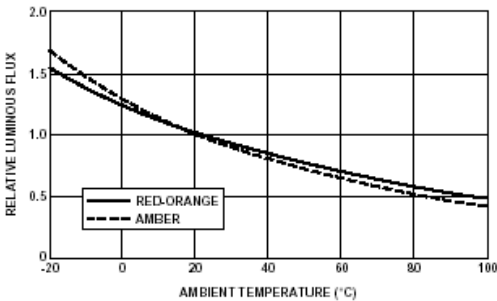

Figure 4.1 Luminous flux versus ambient temperature for a typical red-orange AS/TS AlInGaP LED when operated at a constant current.
The degradation of flux as a function of increasing temperature for a typical red-orange, absorbing-substrate (AS) or transparent-substrate (TS) AlInGaP LED is shown in Figure 4.1. Note, luminous flux has been normalized at 25°C.